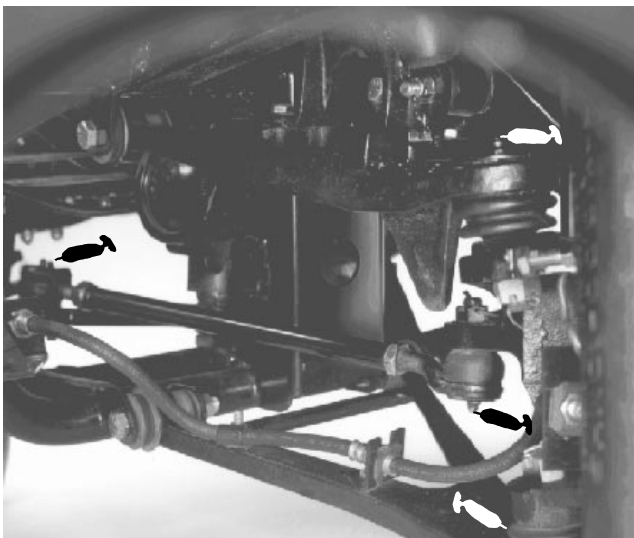

Figure 28
(Fig. 28–34)
The grease fitting locations and quantities are: Tie rod ends (4) (Fig. 28), Front ball joints (4) (Fig. 28), Rear drive shafts (18) (Fig. 29) Front pivot bushings (2) (Fig. 30); Mid drive shaft – 4 wd only (3) (Fig. 31); Pedal Pivots (4) (Fig. 32); Steering shaft (1) (Fig. 33) and Accelerator Arm (1) (Fig. 34).